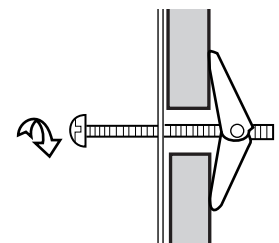

Figure 17
4. Align the Mounting Plate carefully and hold in position while tightening Toggle Bolts. Pull Toggle Bolt toward you and turn clockwise to tighten. See Figure 17.